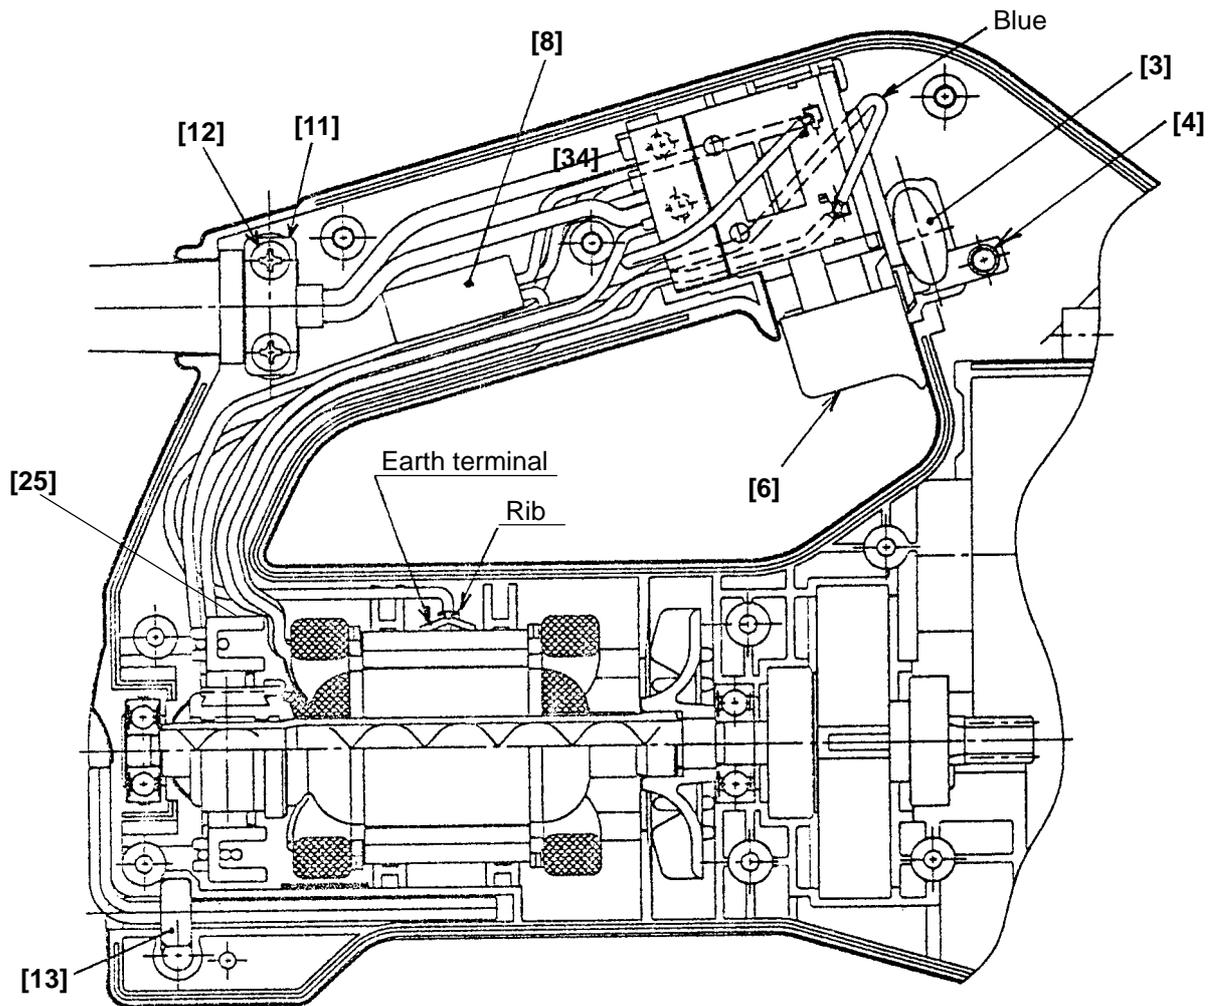
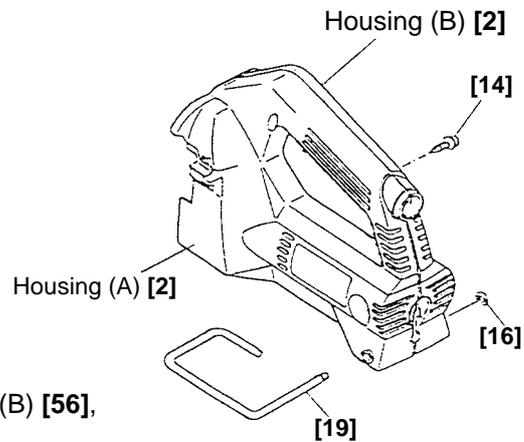

Fig. 34
Fig. 36
(c) Power supply unit (Fig. 34)
- (a) Mount the Cord [10] to Housing (A) [2] and mount the Cord Clip [11] facing its protrusion to the cord. Secure them with the two Tapping Screws (W/Flange) D4 x 16 [12].
- (b) Push the earth terminal of the Noise Suppressor [8] as far as it will go along the ribs of the Stator [22] and Housing (A).
- (d) Arrange the Switch [6] and the Noise Suppressor [8] as shown in Fig. 34.
- (e) Mount the Spring (A) [4] to the Pushing Button (A) [3] (Fig. 34).
- (f) Mount the Wrench Holder [13] to Housing (A) [2] (Fig. 34).
- (g) Place the internal wires to the proper positions in Housing (A) [2]. Secure Housing (B) [2] with the nine Tapping Screws (W/Flange) D4 x 20 (Black) [14] being careful not to catch the internal wires.
- (h) Mount the Hook [19] in the proper direction. Mount the Retaining Ring (E-type) for D4 Shaft [16] (Fig. 36).